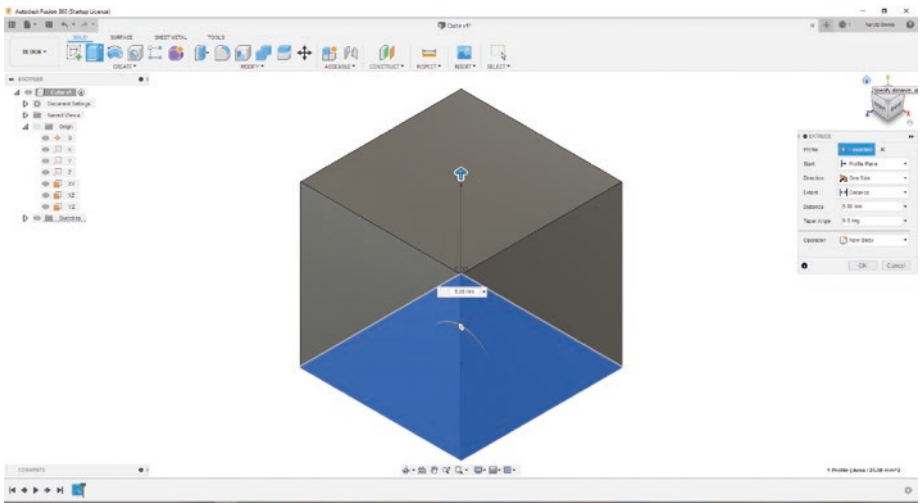

Figure 3-51. Select “HOME” on ViewCube
3. You can get a better angle on the 3D model by pressing the Shift key and holding down your mouse's center button and moving the mouse toward your computer screen. You could also select the “Home” button next to the ViewCube. See Figure 3-51.